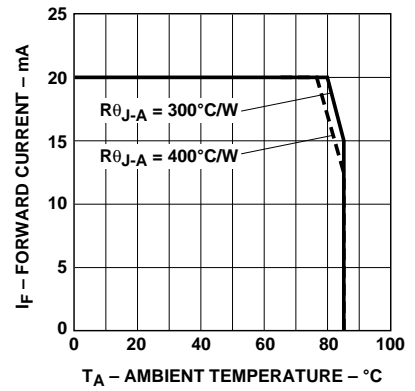

Figure 4. Maximum DC Current vs. Ambient Temperature.
- Derate linearly as shown in Figure 4 for temperatures above 25°C .